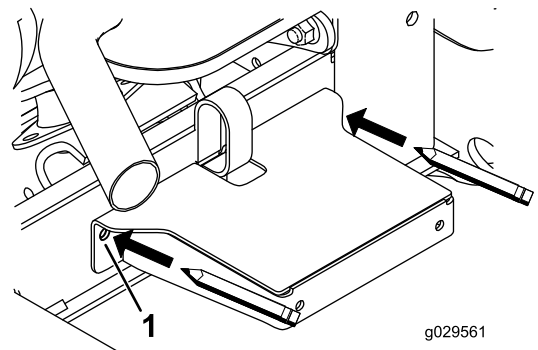

Figure 34
8. Use the frame mount as a template to locate and mark the other 2 fender mounting holes in the frame channel (Figure 34).